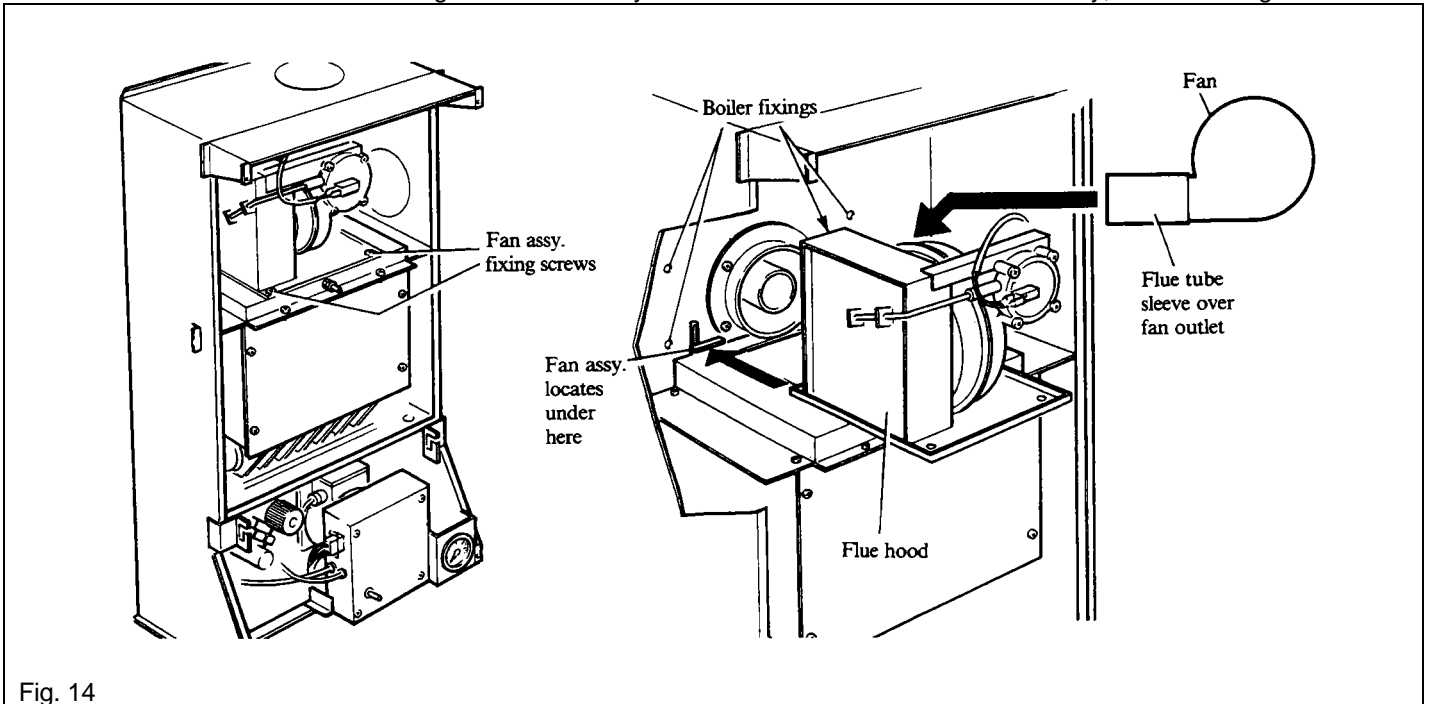

Fig. 14
the fan motor and pressure switch leads. See Fig. 14.
- With the fan assembly resting on the flue hood push it towards the rear of the boiler, locate the flue tube sleeve on the fan outlet into the inner tube of the flue/terminal assembly and push the fan assembly fully home until the base is located under the returns at the rear of the flue hood, see Fig. 14.